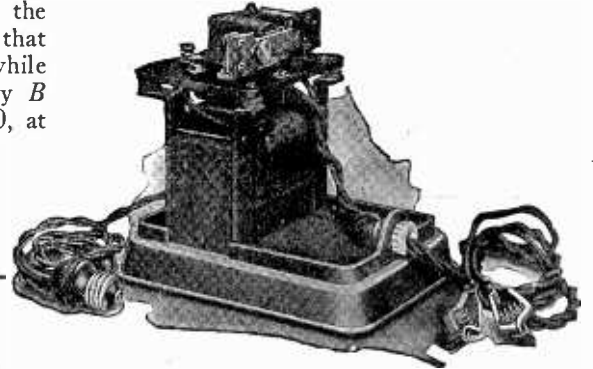

Fig. 11. Typical Vibrating Contact Rectifier
How these conditions are met in practice will best be seen from a consideration of a standard typical charger, a picture of which is seen in Fig. 11. The schematic connection diagram of this charger is shown in Fig. 12. The complete charging outfit consists essentially of the following parts:
- (a). A step-down transformer T for reducing the line voltage from 110 or 220 volts a.c. to the voltage necessary for charging the battery. This transformer is seen mounted directly on the base in Fig. 11. The transformer should be efficiently designed to reduce losses which go to increase cost of charging batteries. It should also be designed so that it will be capable of withstanding reasonable overload without undue heating.
- (b). An electro-magnet M, Fig. 12, seen in Fig. 11 mounted on top of the step-down transformer,